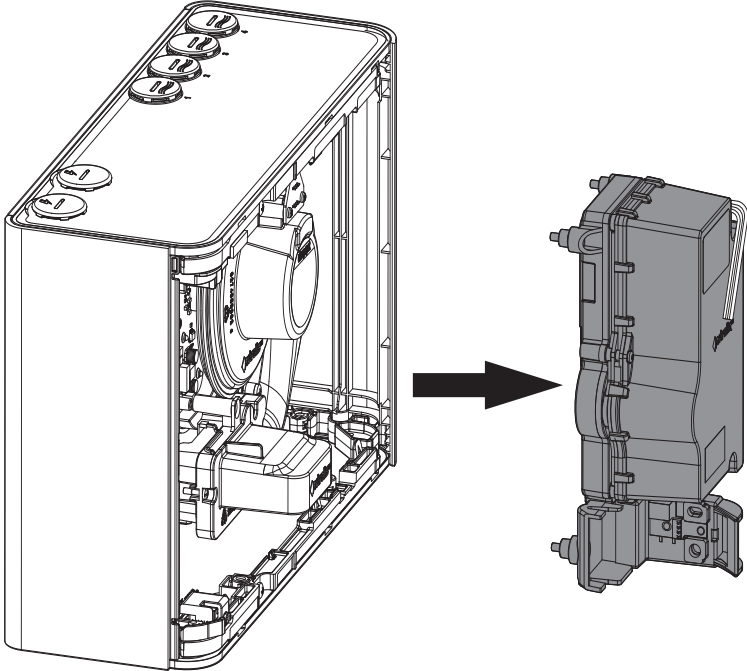

Figure 7-15: Remove the Chamber from the detector base
- 5. Remove the chamber from the detector base (Figure 7-15).